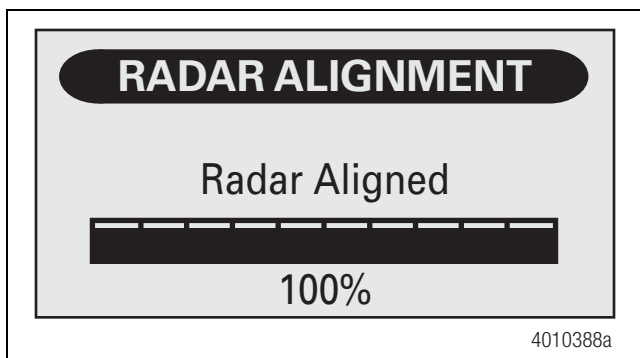

Figure 2.21
4. Wait until the Radar Aligned screen in Figure 2.21 appears. This typically takes 10 to 30 minutes of driving time to complete.